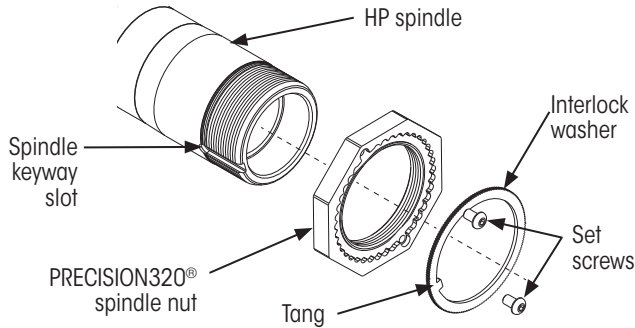
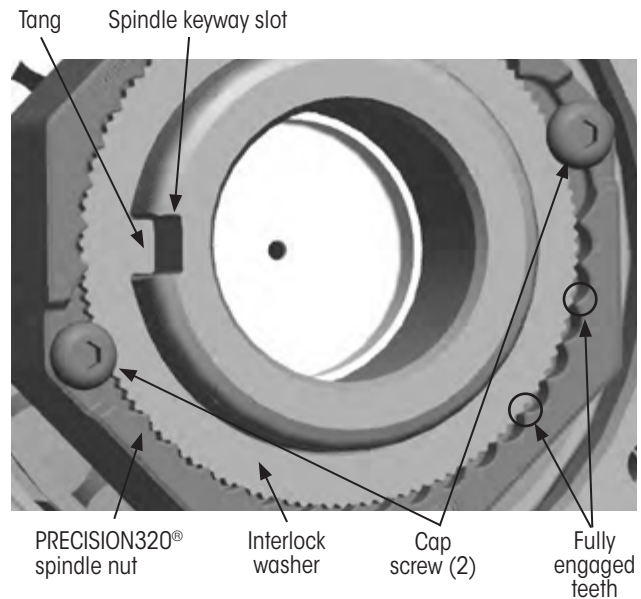

Figure 11: PRECISION320® spindle nut system components
Figure 13: Interlock washer and spindle nut fully engaged
1. Install PRECISION320® spindle nut (Figure 11) onto the spindle, toothed side out, and hand-tighten.
9. Install interlock washer into PRECISION320® spindle nut with the tang aligned and inserted in spindle keyway as shown in Figure 11 and Figure 13.
IMPORTANT: Teeth between the interlock washer and PRECISION320® spindle nut must fully engaged as shown in Figure 13. **DO NOT ADJUST NUT TO ALIGN INTERLOCK WASHER.** Flip interlock washer over and reinstall.
10. **Install two button-head cap screws** (Figure 11) into PRECISION320® spindle nut until the heads of the screws just contact the face of the nut.
1. **Ensure** interlock washer is fully seated in PRECISION320® spindle nut (Figure 13).